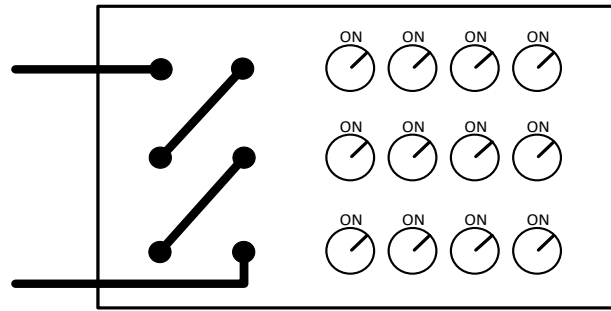

Fig.1.2. Connection diagram for inductive load banks ($L=3 \times L1/4$). Note that all phases are connected in series.
- Connection diagram of resistive and inductive load banks for the experiment is given in Fig. 1.2 and Fig. 1.3.